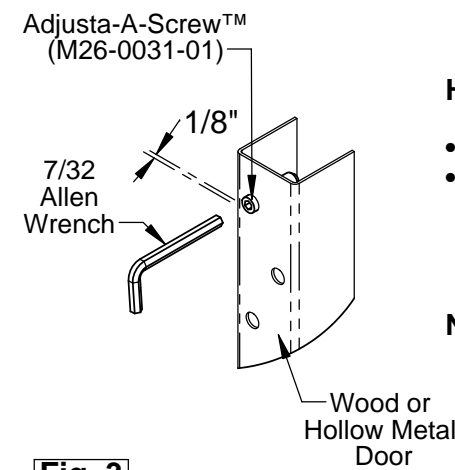

Fig. 3
• Insert Adjusta -A-Screws into every hole. Place a 7/32" Allen wrench in the opening of the Adjusta-A-Screw and turn the Adjusta-A-Screw into the hole while keeping the screw properly aligned as shown (Fig. 3) Drive all the Adjusta-A-Screws in until it is approximately 1/8" from edge of door. (Adjusta-A-Screw will self tap)